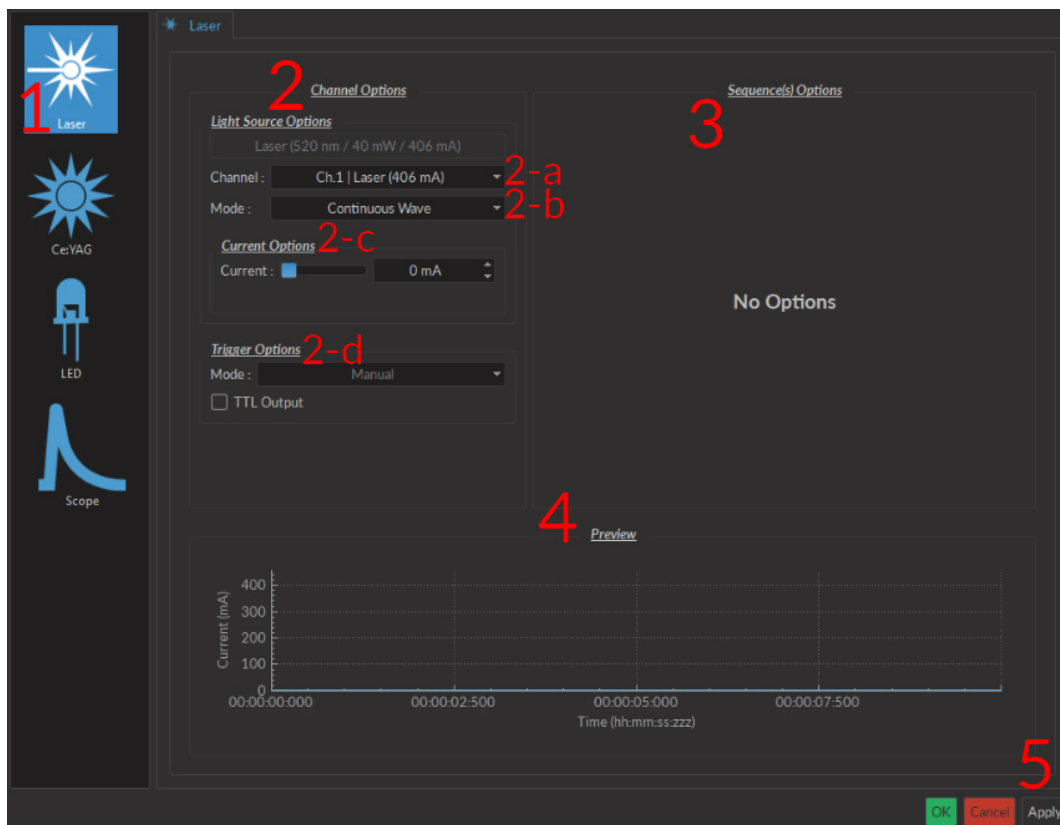

Figure 4.2: Light Source Channel Configuration Window
Each light source driver is separated into a number of **Channels**. Each channel controls a single light source. While each channel can be controlled in **Stand-alone** mode by the driver, additional functions can be accessed for these channels when the driver is connected to the Doric Neuroscience Studio. These function are used through the **Channel Configuration** window (Fig. 4.2).
1. The **Channel Types** (Fig. 4.2) are displayed on the left side of the window. These include **Laser** light sources, **Ce:YAG** light sources and **LED** light sources, as well as the **Scope** to measure signal using the driver.
2. The **Channel Options** box (Fig. 4.2) includes **Light Source Options** and **Trigger Options** for the given channel.
- a) The **Channel** (Fig. 4.2) drop-down list identifies which driver channel is currently being edited, assuming a driver with multiple channels.
- b) The **Mode** (Fig. 4.2) drop-down list includes each possible driver mode. These are used to control the pulse sequences emitted by the light source. The options related to this mode are detailed with the **Sequence Options**.
- c) The **Current Options** (Fig. 4.2) includes the slider used to control the current sent to the light source.
- d) The **Trigger Options** (Fig. 4.2) allow the selection of a number of trigger modes to activate a pulse sequence.
3. The **Sequence options** box (Fig. 4.2) is where sequence options are defined depending on the mode. The **Continuous wave**, **External TTL** and **External Analog** modes have no additional sequence options.
- The **Preview** box (Fig. 4.2) displays a preview of the chosen sequence while in the **Continuous Wave**, **Square Sequences** and **Complex Sequences** mode.
- The **Apply** button (Fig. 4.2) will generate the defined channel OR update an already configured channel with any changes.